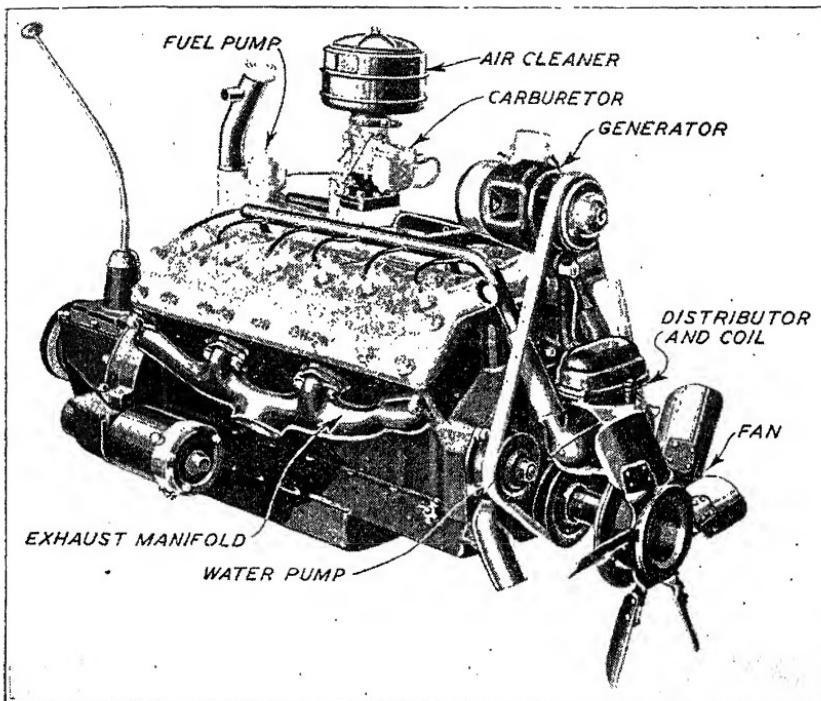

Fig. 6. Lincoln-Zephyr V-12 Engine
**V-Type Engine.** The Ford Lincoln-Zephyr V-12 engine used in the Lincoln-Zephyr car is of the V type, with twelve cylinders which are set at an angle of 75 degrees, as shown in Fig. 6. This angle gives a firing impulse of 75 degrees, and 45 degrees of crank-shaft travel. The cylinders are offset .250 inch.